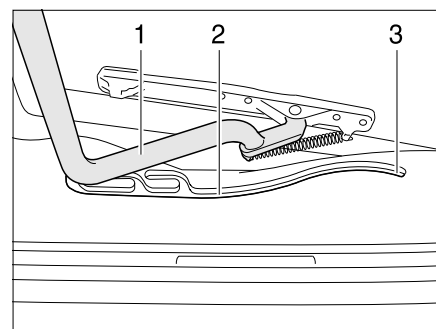

Fig. 92 Heki skylight, guide
- Pull the bar (Fig. 92,1) in the guides (Fig. 92,2) to the rearmost position (Fig. 92,3).
- Use both hands to push the bar (Fig. 92,1) slightly upwards.
- Pull the bar in the guides (Fig. 92,2) to the desired position.